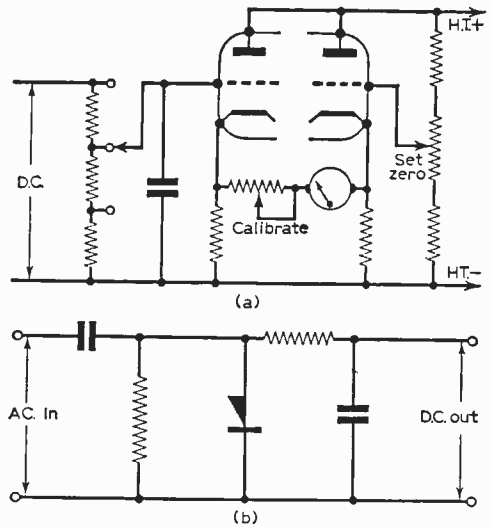

Fig. 9(a) The basic principle of the valve voltmeter; (b) a.c. probes.
The basic principle of the valve voltmeter can be seen from Fig. 9(a), which shows two halves of a double-triode valve in a balanced circuit. Actually they form a bridge across the h.t. supply with the meter reading a difference in cathode voltage. Thus when each triode passes the same current the cathodes are at the same potential and the meter reads zero. The bias of the second triode is altered by the set zero control and the bridge is balanced, but when a d.c. voltage is applied at the input terminals, effectively across the grid circuit of V1, the balance is upset, cathode voltages differ, and the meter indicates the change which is proportional to the input.
A.C. probes, which differ in detail from that shown in Fig. 9(b), will also be discussed. Many probes now used are unsuitable for high-frequency work and it is necessary to go a little deeper into the effect upon components and circuitry of higher frequency, non-sinusoidal waveforms. It will be noted that the probes supplied with several of the better-class commercial valve voltmeters and electronic testmeters are considerably more complicated than that illustrated and also that the circuitry of the meter has been developed to a high degree of accuracy, stability and economy.